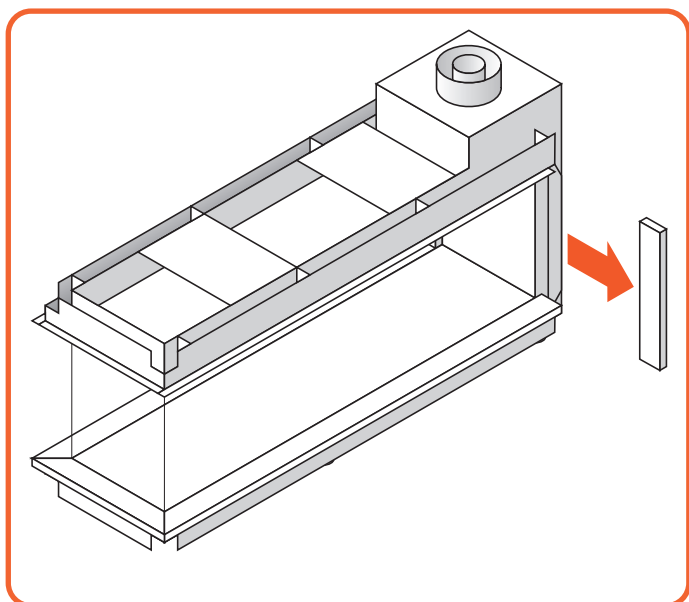
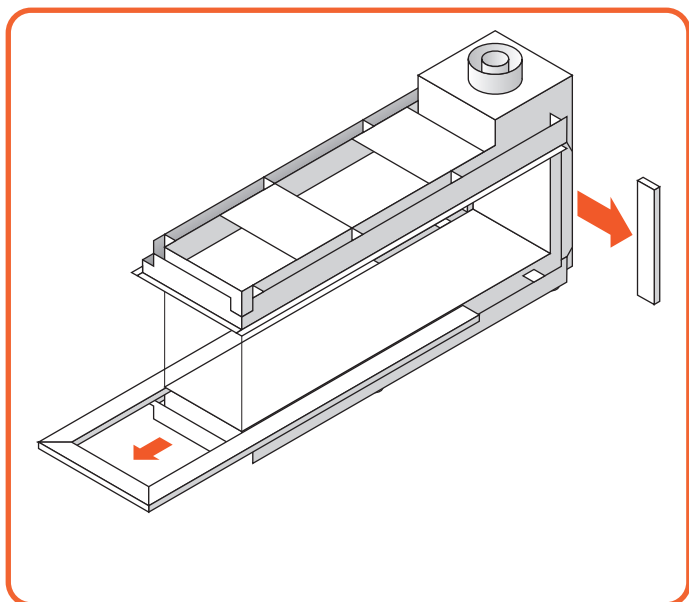

Figure 11.9 | Remove side trims
Figure 11.10 | Remove bottom trim
- Remove both the side trims and bottom trim. They are held by magnet snappers, Figure 11.9 & Figure 11.10.